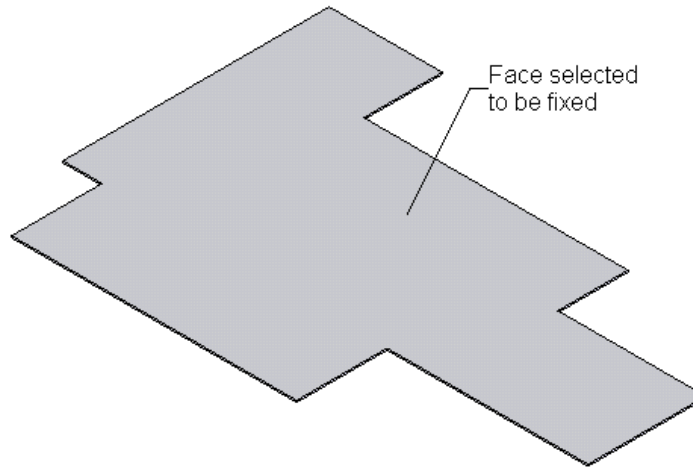

Figure 16-96 Face selected to be fixed
- © You are prompted to select the fixed face or edge and set the bend parameters. Select the top face of the flat part as shown in Figure 16-96. The selected face is highlighted in green and